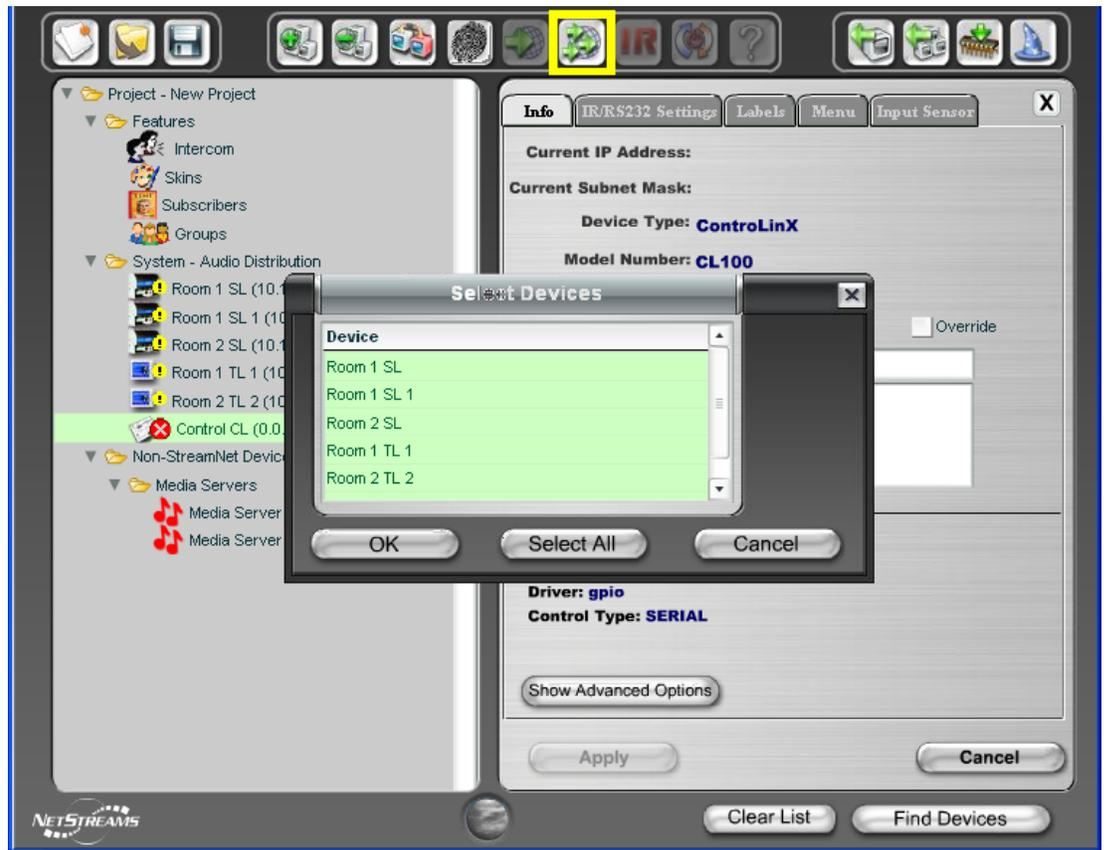

Figure 6-6 Sending configuration to all devices
7. Select the  button to send the configuration to all devices (see Figure 6-6).